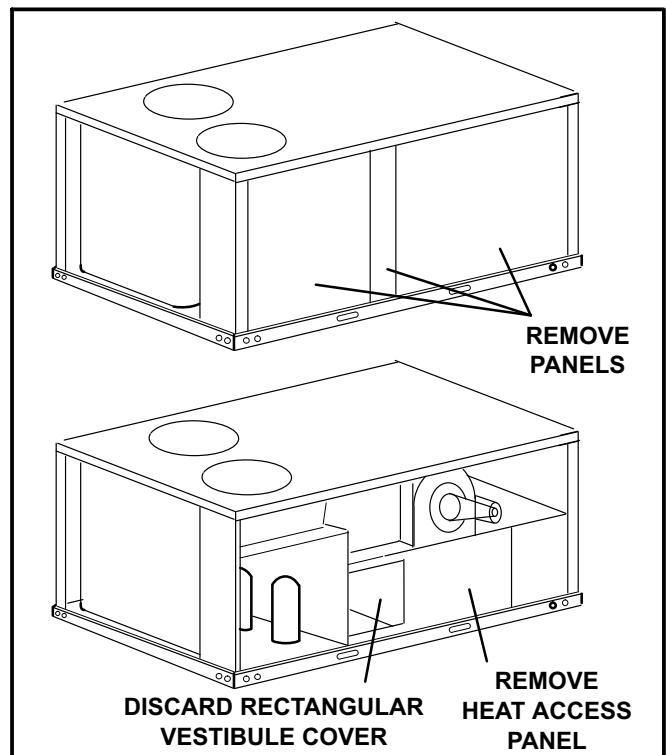

FIGURE 1
- 2- Remove all panels from front of unit. See figure 1.